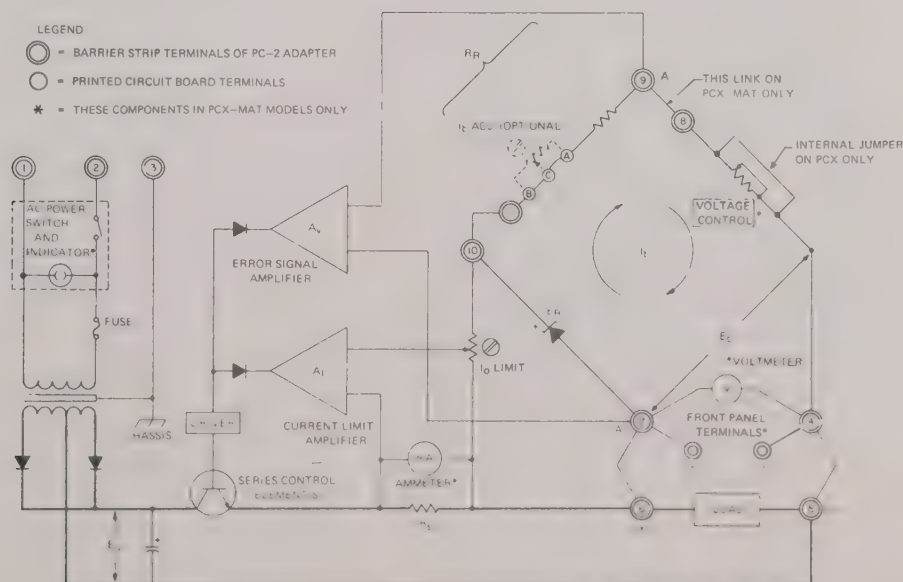

FIG. 4-1 PCX AND PCX-MAT POWER SUPPLY MODULE FEEDBACK REGULATOR SYSTEM (SIMPLIFIED SCHEMATIC)
4-2 This section contains the power supply circuit analysis. The operational theory, as far as it concerns remote programming, and the derivation of the transfer function were treated in Section III. The simplified diagram (FIG. 4-1) and the main schematic (FIG. 6-1) should be used to illustrate the contents of these paragraphs. References given in CAPITAL LETTERS refer to the nomenclature used in FIG. 4-1.
e) The COMPARISON BRIDGE: This four-arm electrical bridge circuit is the regulating and controlling element in many KEPCO Power Supplies. In the PCX and PCX—MAT Model it consists of CR18 (E_r), R26 (R_r), the output voltage (E_o), and the voltage control resistance (R_{VC}). As shown in FIG. 4-1, a reference voltage (E_r) in series with the reference resistance (R_r) is continuously compared with the output voltage, (E_o) in series with the voltage control resistance, R_{VC} . At balance, a constant bridge current (I_b) is flowing through the bridge, keeping the error signal at bridge terminals (A) and (A') at approximately zero volts. Any deviation from the set output voltage will tend to change I_b in the sensing half of the bridge and thereby produce an error signal at the bridge terminals (A) and (A'). This error signal is then amplified and acts as a control signal for the series regulator transistor, changing the voltage drop across it in such a way as to compensate for the change in output voltage.